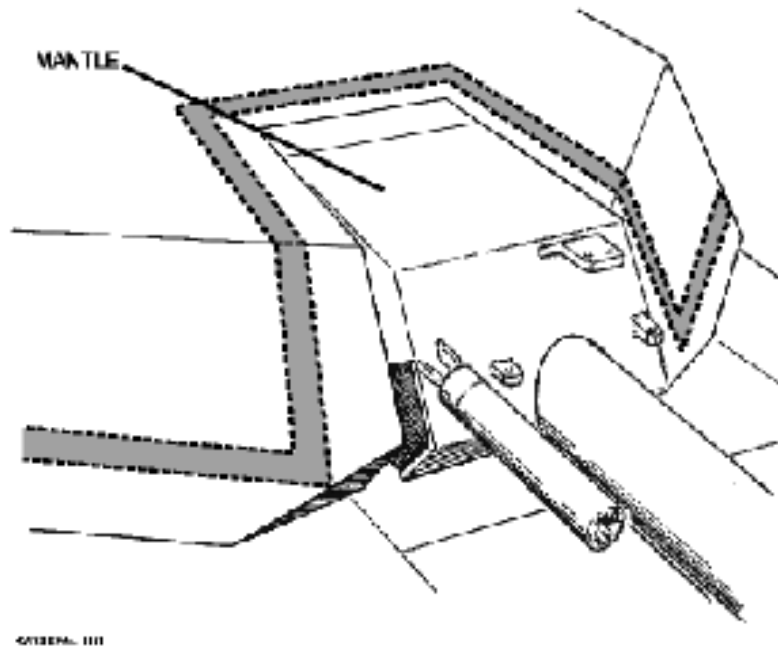

Figure 2-18. M1A1/M1A2 Fastener Tape - Mantle
- Continue applying fastener tape around the mantle, and along the right side, immediately above the Towing Cable, ending at the right rear side. (See Figure 2-18.)